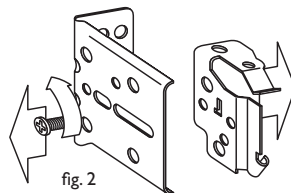

fig. 2
3. Take a rail end bracket, undo the small screw and separate the two parts (Fig. 2). This will make it easier to reach the screws to fix them to the batten or wall.